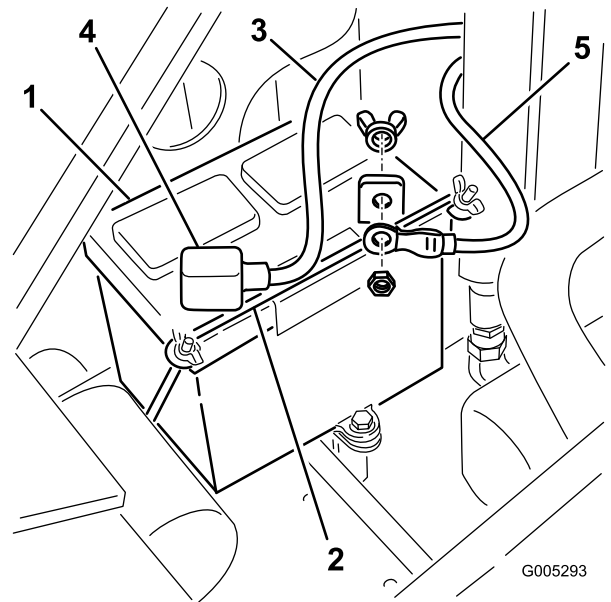

Figure 48
4. Remove the wing nuts and bar securing the battery (Figure 48).
5. Disconnect the negative (black) ground cable from the battery post (Figure 48). Retain the fasteners.
7. Disconnect the positive (red) cable from the battery post (Figure 48). Retain the fasteners.
1. Using the fasteners previously removed, install the positive (red) battery cable to the positive (+) battery terminal (Figure 48).
3. Using the fasteners previously removed, install the negative (black) battery cable to the negative (-) battery terminal (Figure 48).
4. Secure the battery using the bar and wing nuts (Figure 48).